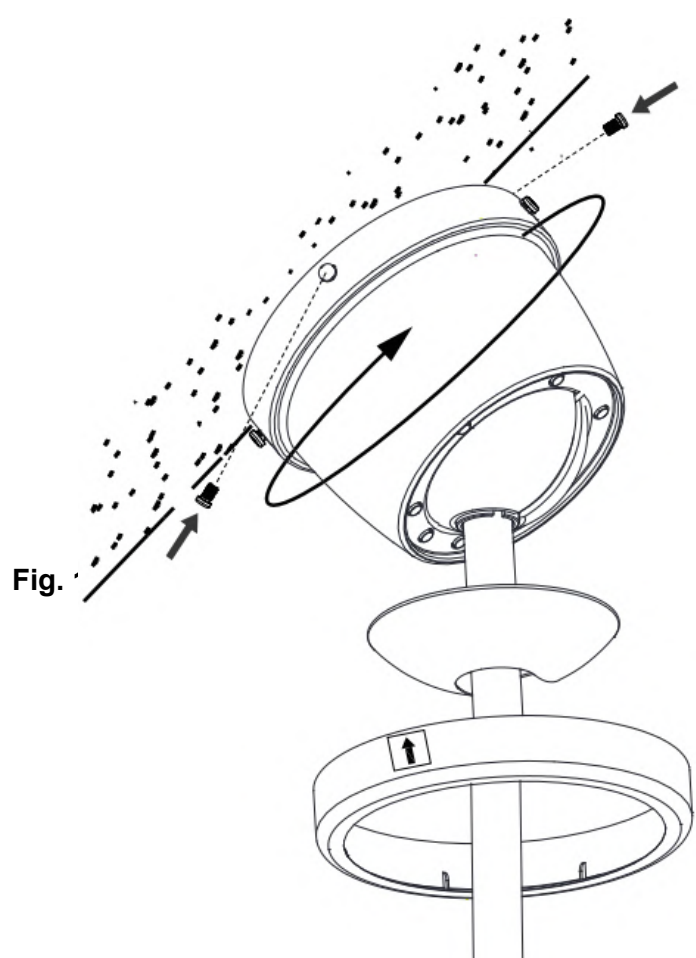

Fig. 18
- Turn the angle canopy until it locks in place at the end section of the L-shape slot. Secure it by tightening the two canopy screws. (Fig.18)
- Secure and tighten the two other canopy screws with a star washer to the mounting bracket. The angle canopy shall have 4 screws in total. Avoid damaging the electrical wiring prepared previously when hanging the canopy. (Fig.18)